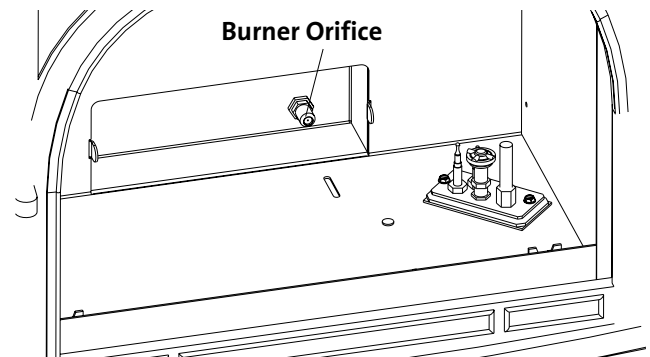

Figure 24. Change the Burner Orifice.
8. **Change the Main Burner Orifice.** See fig. 24. Using a fh" open ended wrench or deep-well socket remove the burner orifice from its brass elbow housing and replace with the appropriate orifice supplied in the kit.